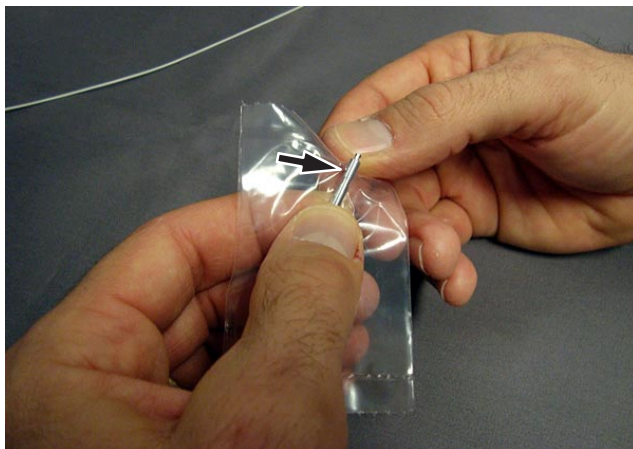

Figure 4
2. Push splice through inner-bag to remove. See Figure 4.